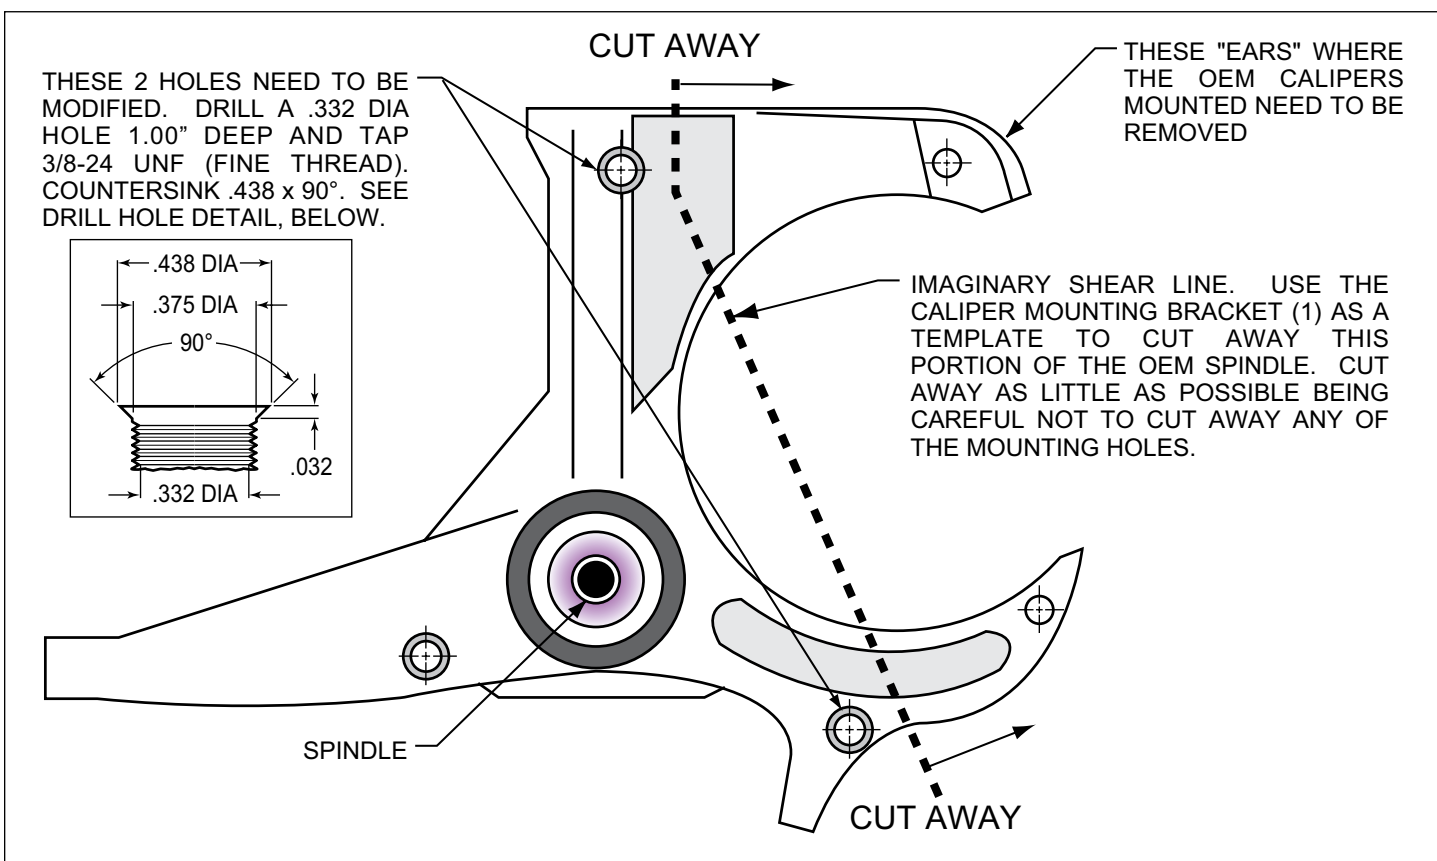

Figure 1. Steering Arm / Spindle Modifications
**NOTE:** These modifications should be performed by a qualified machinist and completed before assembly of the Wilwood disc brake kit begins. Refer to Figure 1 as necessary (numbers in parenthesis refer to the parts list). Only one view of the steering arm/spindle is shown, but the modifications need to be performed on both steering arm/spindles.
The two OEM holes that will be used to mount the caliper mounting bracket (1) need to be modified. Drill a .332 diameter hole, 1.00" deep, both holes, Figure 1, then tap 3/8-24 UNF (fine thread). Countersink the holes to .438 x 90°. The "ears" that protrude to form a "C" shape need to be removed to facilitate the installation of the Wilwood kit. Using the bracket as a template, mark two cut marks on the steering arm. Remove as little as necessary from the "C" shape, being careful not to cut away any of the mounting holes required to bolt on the bracket.